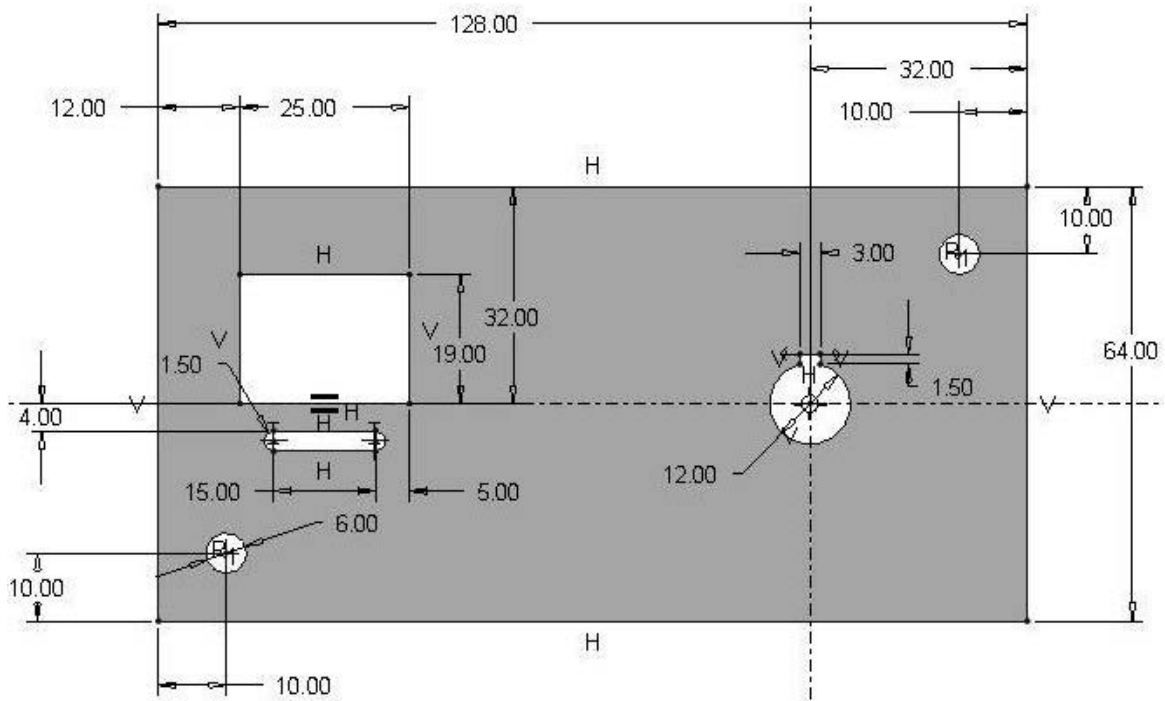

Figure 3-76 Problem 7
- 3.7 Draw the front cover plate (Figure 3-76). **Design Intent**—All features are located from the outside edge of the cover plate, and not relative to each other.